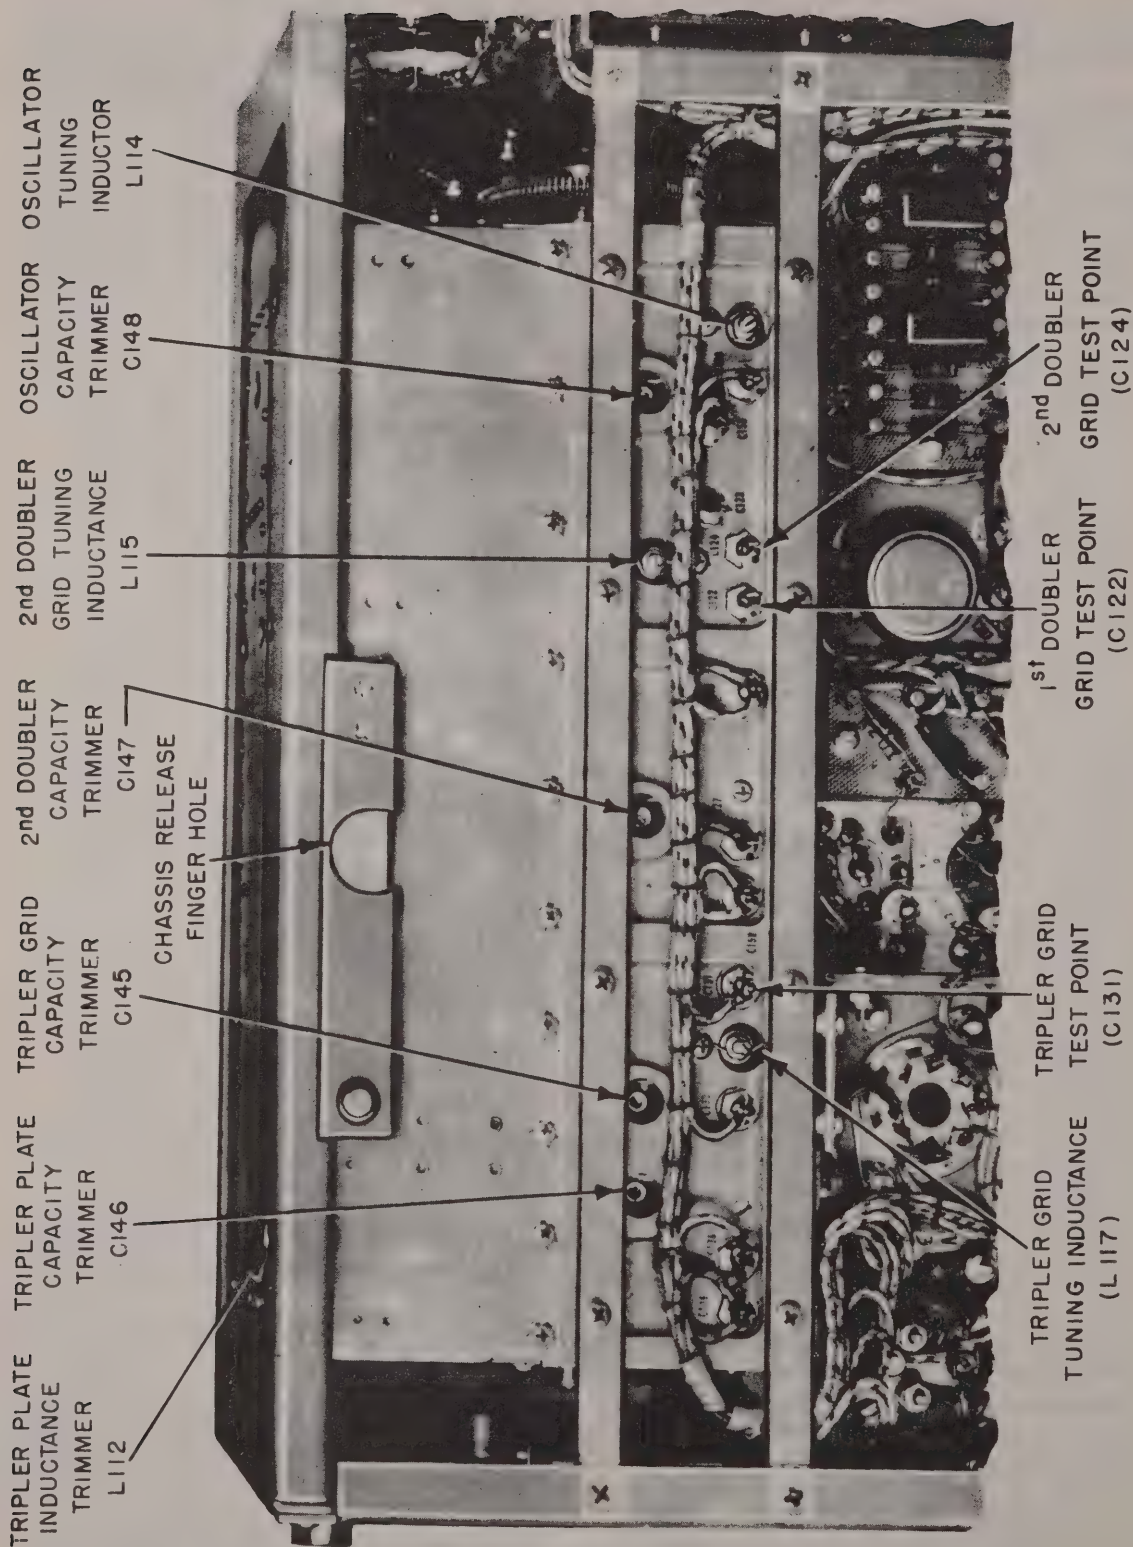

Figure 7-8. Presselector from Bottom of Chassis Showing Alignment Adjusting Screws
Conditions	Test Points (See figures 7-8, 7-9 and 7-15)
(8) On bottom of chassis (figure 7-8): Note two similar rails holding preselector in place and detach rail nearer left side from rear panel and front panel sub-assembly, and rail farther from left side from preselector, in similar manner to step No. 6.
(9) Turn tuning crank until "325" appears in window marked MEGACYCLES; this should put the arms of the flexible coupling in a horizontal position.
(10) Withdraw preselector from chassis.